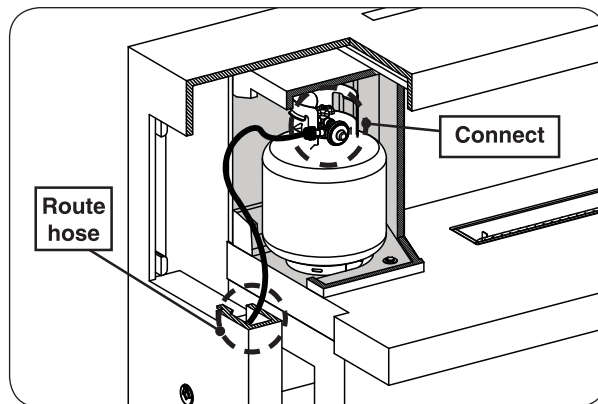

Fig. 17-3 L.P. Cylinder placement
3. The propane cylinder (not included) is to be located inside the firebox of the unit (see Fig. 17-3). The access door must be removed to place the cylinder. (Replace once done.)
- Connect the flex connector to the shut-off valve (see Fig. 17-3). Tighten securely.
- Install the supplied flare adaptor to the gas supply using a pipe joint compound resistant to all gasses (see Fig. 17-3). Tighten securely.
- Connect the flex connector to the flare adaptor (see Fig. 17-3). Tighten securely.